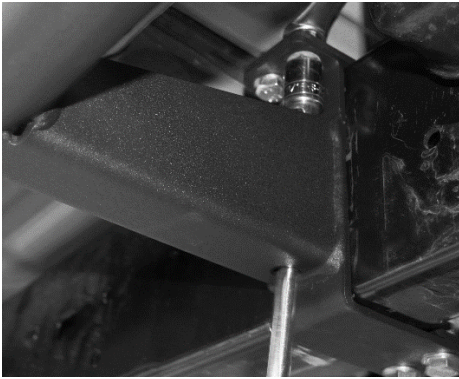

Figure 9
8. Begin tightening the four **M10 Hex Bolts** and **M10 Hex Nuts** to bring the brackets together and the **Rock Rail Assembly** into place on the frame, but do not fully tighten them yet. *A socket extension can be used through the bottom hole of the brackets with a swivel joint adapter to aid in tightening the hardware at the top end of the bracket. Refer to Figure 9.*